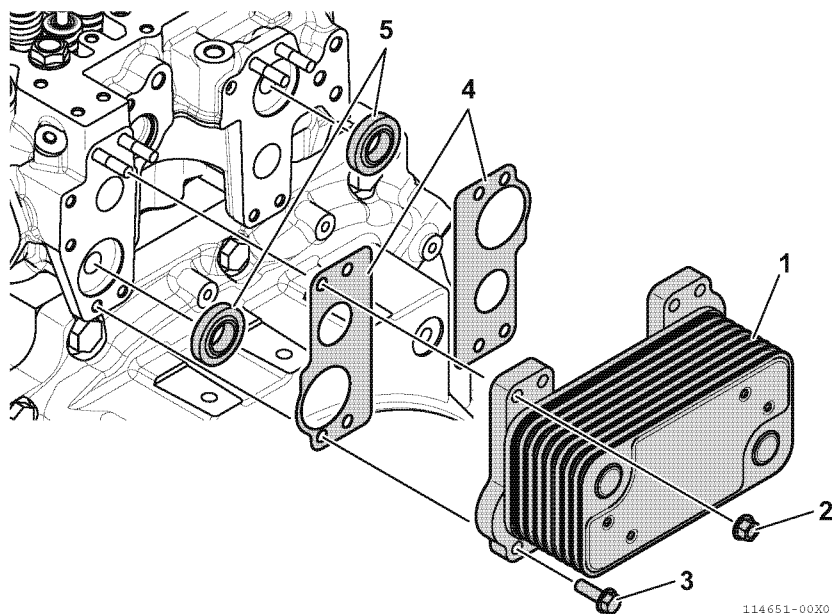

Fig.23-7
2. Loosen the mounting nut (2, Fig.23-7) and mounting bolt (3, Fig.23-7) of the EGR cooler (1, Fig.23-7) installed on the cylinder head flywheel side, then remove the EGR cooler.
3. Remove the 2 EGR cooler gaskets (4, Fig.23-7) and two coolant gaskets (5, Fig.23-7) together with the EGR cooler. Discard the EGR cooler gaskets and coolant gaskets.